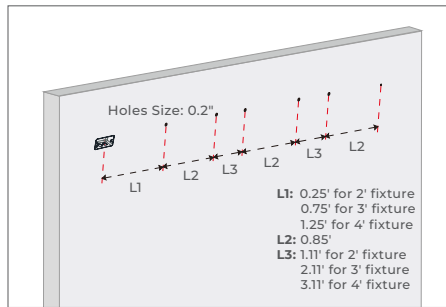

FIGURE 2-4
- 2) Prep mounting surface as shown. (Figure 2-4)